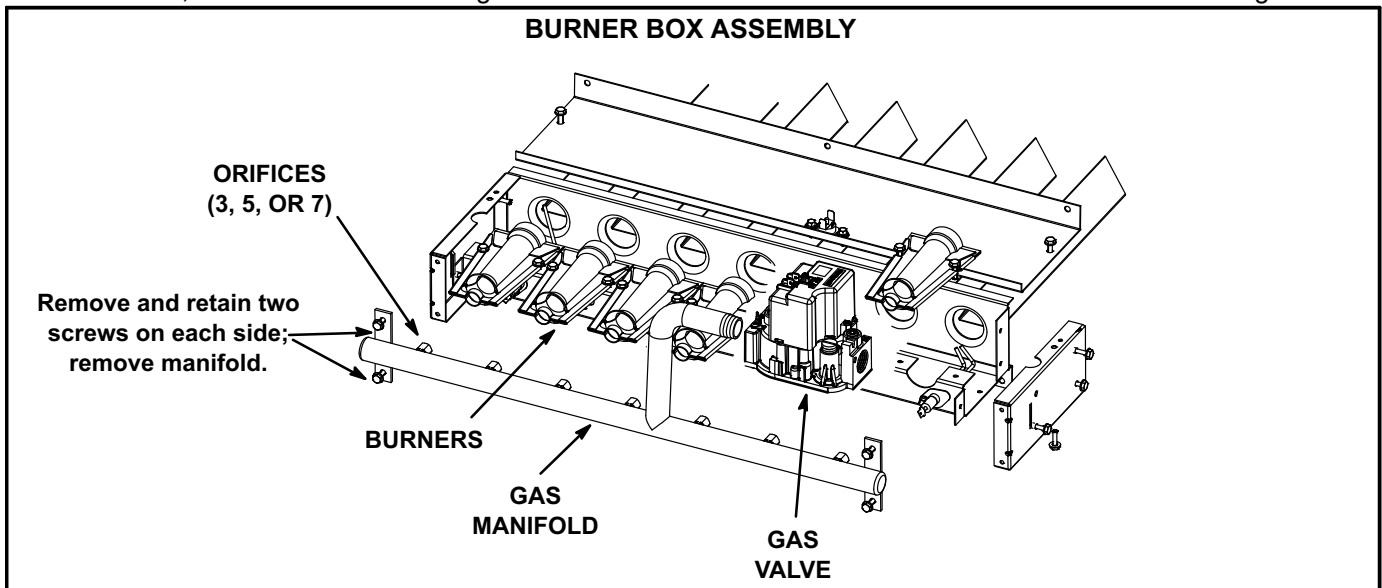

FIGURE 2
- 3- Remove and retain four screws securing manifold to burner box; remove manifold. See figure 2.